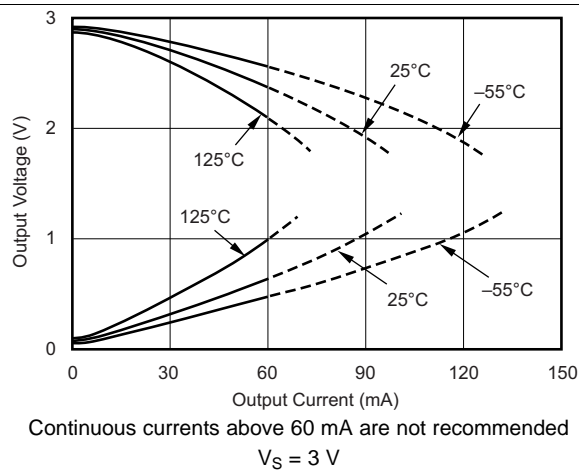
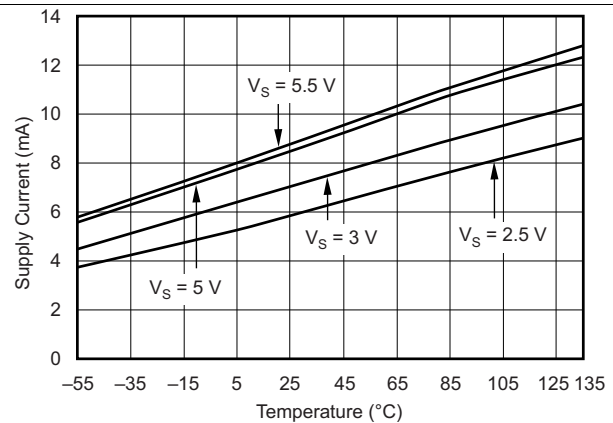
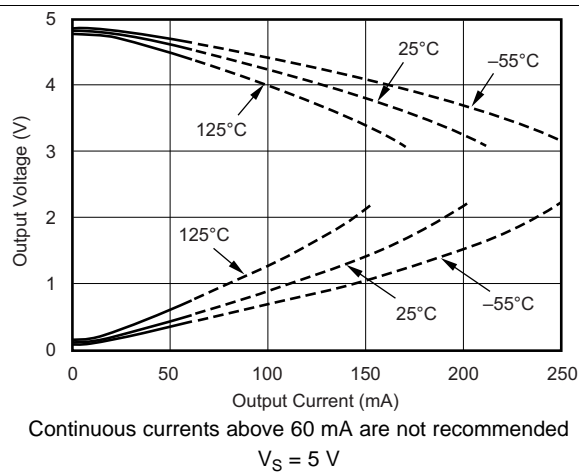

Figure 21. Output Voltage Swing vs Output Current
Figure 22. Supply Current vs Temperature
Figure 23. Output Voltage Swing vs Output Current
(1) See the *Output Voltage Swing vs Output Current* (Figure 21 and Figure 23) in the *Typical Characteristics* section.
(2) Logic LOW and HIGH levels are CMOS logic compatible. They are referenced to V_- .
Running a continuous DC current in excess of ± 60 mA is not recommended. See the *Output Voltage Swing vs Output Current* graphs (Figure 21 and Figure 22) in the Typical Characteristics section.